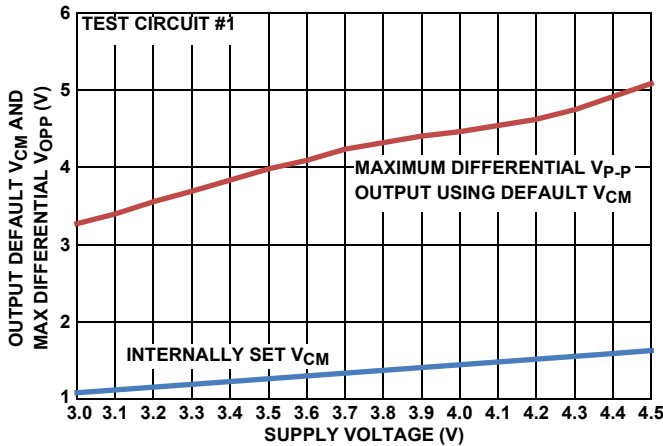
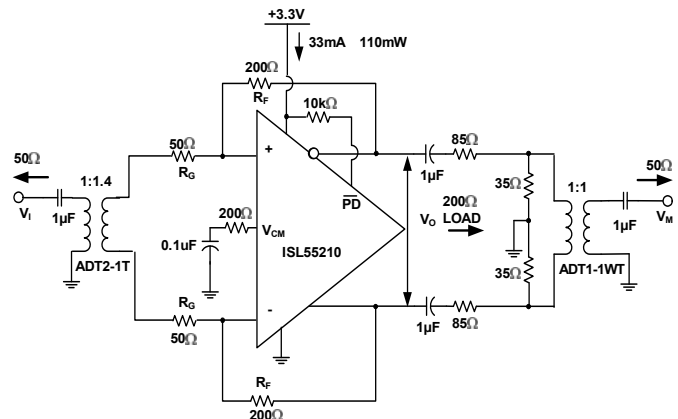

FIGURE 26. DEFAULT V_{CM} AND MAX V_{OPP} vs SUPPLY VOLTAGE
FIGURE 28. TEST CIRCUIT #1
The circuit of Figure 28 forms a starting point for many of the characterization curves for the ISL55210. Since most lab sources and measurement devices are single-ended, this circuit converts to differential at the input through a wideband transformer and would also be a typical application circuit coming from a single ended source. Assuming the source is a 50Ω impedance, the R_G resistors are set to provide both the input termination and the gain. Since the inverting summing nodes act as virtual ground points for AC signal analysis, the total termination impedance across the input transformer secondary will be $2 * R_G$. Setting this equal to $n^2 * R_S$ will give a matched input impedance inside the bandwidth of the transformer (where "n" is the turns ratio). The amplifier gain is then set by adjusting the feedback resistors
Working with a transformer coupled input as shown in Figure 28, or with two DC blocking caps from a differential source, means the output common mode voltage set by either the default internal V_{CM} setting, or a voltage applied to the V_{CM} control pin, will also appear as the input common mode voltage. This provides a very easy way to control the ISL55210 I/O common mode operating voltages for an AC coupled signal path. The internal common mode loop holds the output pins to V_{CM} and, since there is no DC path for an I_{CM} current back towards the input in Figure 28, that V_{CM} setting will also appear as the input common mode voltage. It is useful, for this reason, to leave any input transformer secondary centertap unconnected. The internally set V_{CM} voltage is referenced from the negative supply pin. With a single 3.3V supply, it is very close to 1.2V but will change with total supply voltage across the device as shown in Figure 26.
Most of the characterization curves start with Figure 28 then get different gains by changing the feedback resistor, R_F , use different input transformers where then the R_G is also adjusted to hold an input match, or vary the loading. For load tests below the 200Ω shown in Figure 28, a simple added shunt resistor is placed across the output pins. For loads $>200\Omega$, the series and shunt load R 's are adjusted to show that total load (including the 50Ω measurement load reflected through the 1:1 output measurement port transformer) and provide an apparent 50Ω differential source to that transformer. This output side transformer is for measurement purposes only and is not necessary for final applications circuits. There are output interface designs that do benefit from a transformer as part of the signal path, but the one shown at the right of Figure 28 is used only for characterization to get a doubly terminated 50Ω measurement path going differential to single ended.
The characterization circuit of Figure 28 shows one possible input stage interface that offers several advantages. The ISL55210 can also support a DC coupled differential to differential or single ended input to differential requirement if needed. Where AC coupling is adequate, the circuit of Figure 28 simplifies the input common mode voltage control. If the source coming into this stage is single ended, the input transformer provides a zero power conversion to differential. The two gain resistors (R_G in Figure 28) provide both the input termination impedance and the gain element for the amplifier. For minimum noise, only R_G should be used and set to achieve the desired input impedance. Since the ISL55210 is a VFA device, these resistor values can be scaled up and down a bit more freely than a current feedback based FDA.
3.6V_{P-P} output capability. The V_{P-P} reported in Figure 26 is an asymmetrically clipped maximum swing. Going 10% above this 3.7V target to 4.1V will be within the recommended operating range and give some tolerancing headroom that would also suggest the V_{CM} voltage be moved up to approximately 1.5V. This coincides with the default output V_{CM} from Figure 26. Operating at +4.1V single supply in a Figure 28 type configuration will give the maximum linear available output swing of 3.6V_{P-P}.
The differential inputs of the ISL55210 also have operating range limits relative to the supply voltages. Operating in an AC coupled circuit like Figure 28 will produce an input common mode voltage equal to the outputs. The inputs can operate with full linearity with this V_{CM} voltage down to 1.1V above the GND connection (or -V_S supply). On the default 1.2V output V_{CM} on +3.3V supplies this gives a 100mV guardband on the input V_{CM} voltages. Overriding the default V_{CM} by applying a control voltage to the V_{CM} pin should be done with care in going towards the negative supply due to this limit. On the + side, the maximum V_{CM} above the -V_S supply is 2V so there is more room to move the output V_{CM} up than down from the default value.
Test circuit #1 (Figure 28) is implemented on an Evaluation Module Board available from Intersil. This board includes a number of optional features that are not populated as the board is delivered. The full EVM board circuit is shown in Figure 38 where unloaded (optional) elements are shown in green.